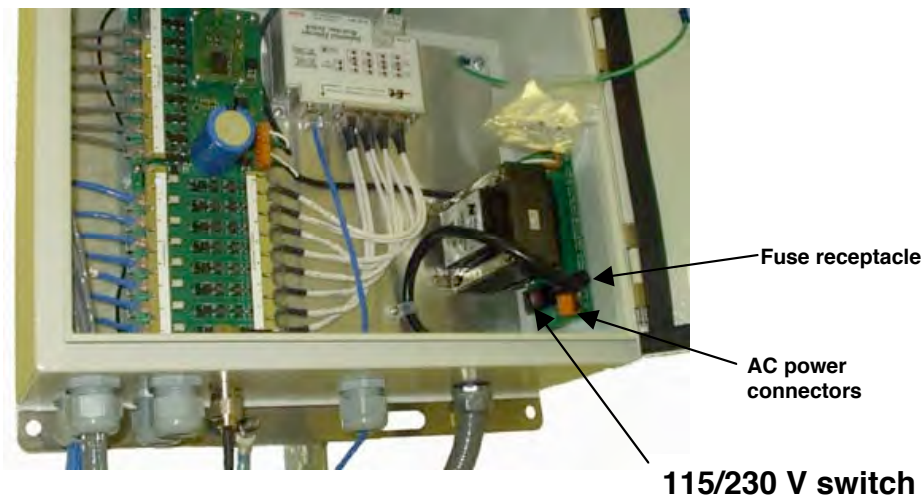

Figure 129: Location of 115-/230-volt switch
6. Set the 115-/230-volt switch in the CMM2 consistent with the power source. See Figure 129.